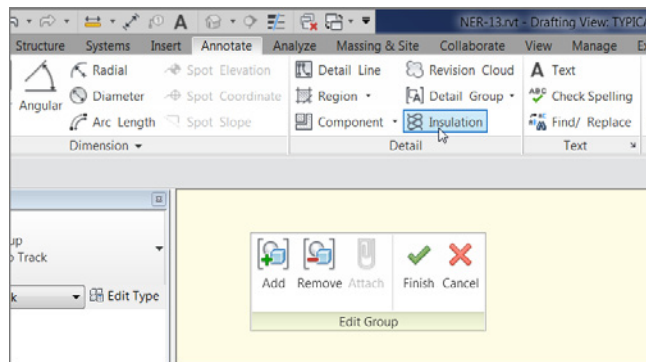

FIGURE 12.73: The Insulation button on the Detail panel of the Annotate tab
4. On the Detail panel of the Annotate tab, click the Insulation button, as shown in Figure 12.73.